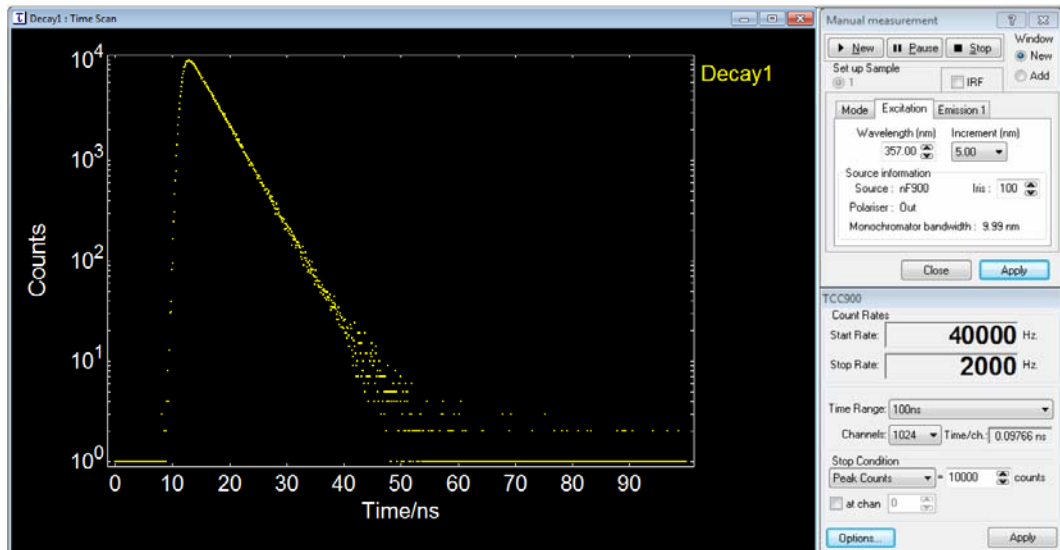

Figure 5-5: Dialogue box for a manual time resolved measurement by TCSPC
4. Close the signal rate screen and open the dialogue box for manual lifetime measurements ( >> **Manual**). The dialogue box will appear on the right side of the F900 main panel and is divided into two dialogue fields. The upper field will be required to start and stop measurements and provides an extract of **Signal Rate** options. The lower field is specific for the lifetime settings in multi-channel scaling mode (refer to Figure 5-5).